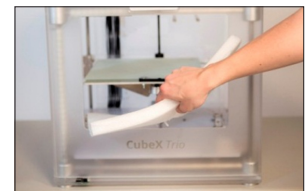

Fig. 20
3. Remove the last foam piece underneath the build plate. (Fig. 20)